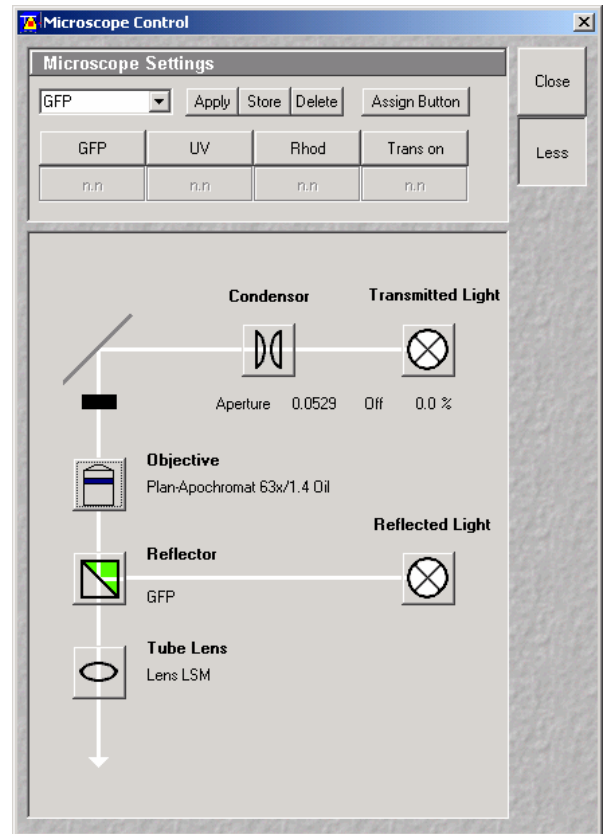

Fig. 10 Microscope Control window, e.g.: Axio Observer.Z1
The **Microscope Control** window appears (Fig. 10).
- Open the graphical pop-up menu by clicking on the **Objective** button (Fig. 10).